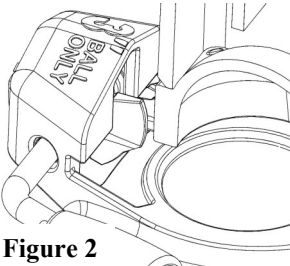

Figure 2
2. With a dab of grease, secure bushings within the coupler body. Assemble the straight leg side of the torsion spring into the locking cam and lower into the casting. Be certain the cam lobe notch rests against inside edge of the coupler casting (Fig. 2). Next, insert the bent-leg end of the spring into bushing side of casting